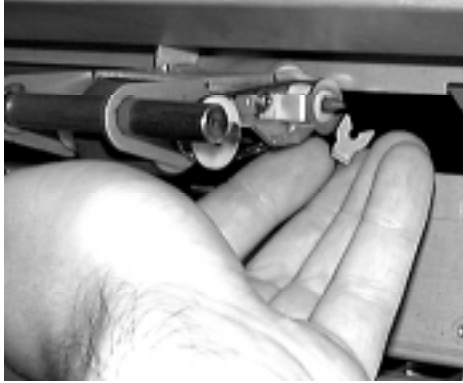

Figure 4-43 Removing Upper Roller Clip
6. Locate the blue plastic clip holding the upper rollers in place. Pull this clip off and set it aside. See Figure 4-43.